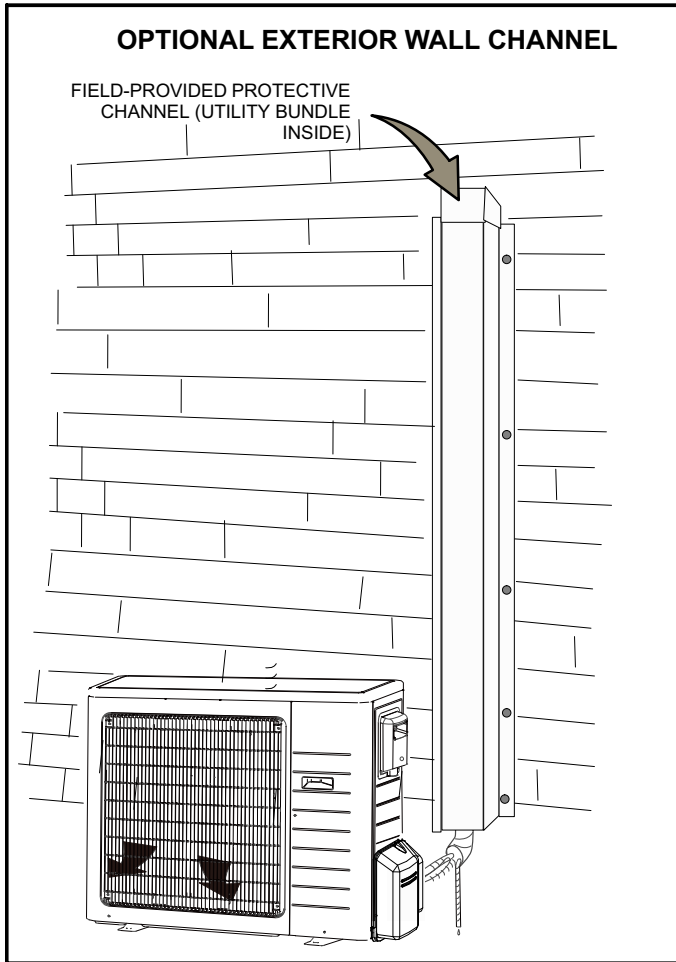

FIGURE 48
3. An optional field-provided exterior wall channel may be used in lieu of taping the utility bundle (see figure 48) to protect the bundle from UV rays, weather, etc.